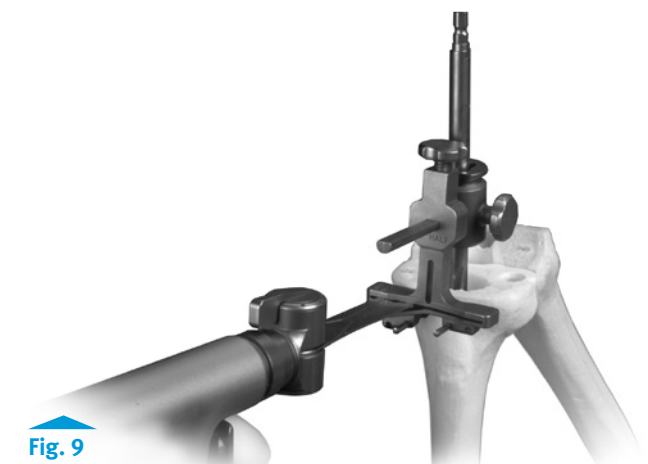

Fig. 9
- Use a 0.050 in. (1.27mm) oscillating saw blade to make the medial and lateral tibial cuts through the slots (Fig. 9).